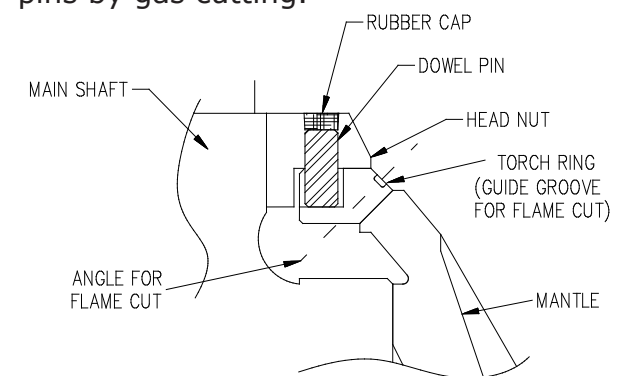

Fig. 6.3.6
7. Remove the two rubber caps. (Fig. 6.3.6)